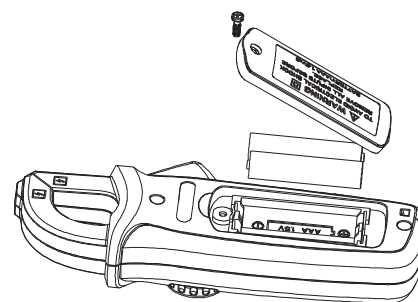

Figure 5
2. Replace battery (see Figure 5)